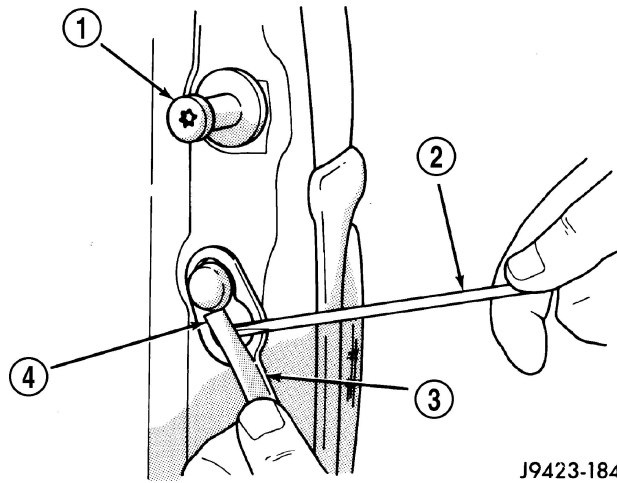

Fig. 1 Tailgate Check Cable-Cargo Box
3. Remove the loose / longer in appearance check cable from its attachment point at the cargo box / bed body (Fig. 1). Do not disconnect the loose / longer in appearance check cable from the tailgate.